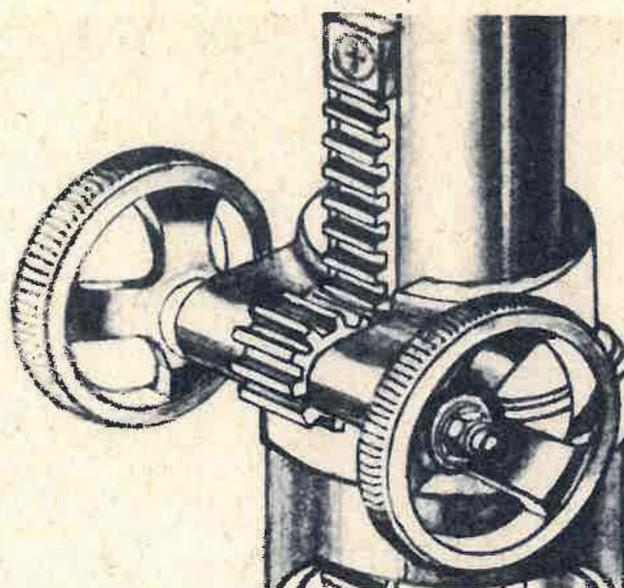

Figure 32 — Sight Adjusting Wheels
(1) Adjustments are provided to fit the sight to the needs of the individual gunner. To adjust the sight to the required eye level, release the locking wheel near the top of the support column and turn the adjusting wheel until the desired position is obtained. Retighten the locking wheel. (Fig. 32.) To adjust the sight to the proper distance from the gunner's eye, loosen the collar and set screw on the elevation arm and adjust until the required position is secured. Retighten the collar and set screw.